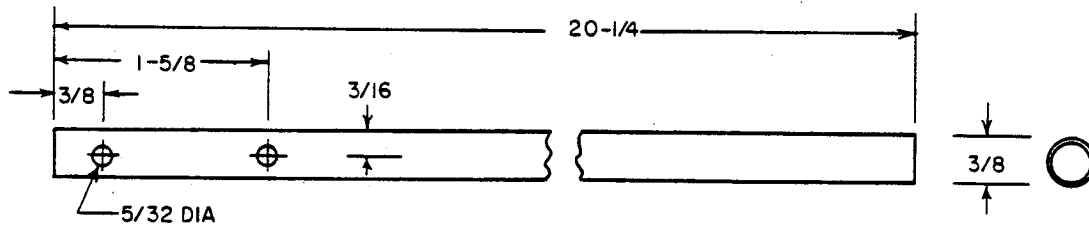

Figure 3-2
- (4) - Short Radials (Figure 3-2)